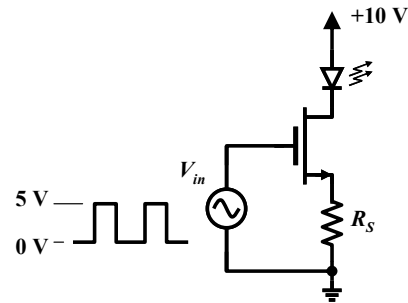

Figure 3-14 – Simple LED Blinker
- Build the circuit in Figure 3-14 using your source-resistance from the previous step. Use the function generator to apply a 0-5V square wave to the gate terminal of the device. Adjust the frequency to a low enough value (on the order of 1 Hz) so that you can see the LED turn on and off. At what frequency can you no longer discern the flickering of the light? This question is relevant to our future discussion of LED displays.